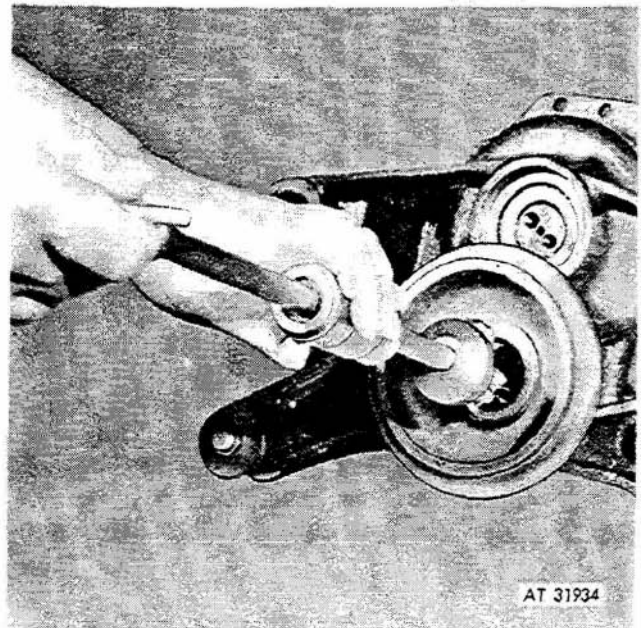

Figure 3-138. Removing seals from input housing.
(7) Using a suitable puller, remove seals (14) from housing (11) as shown in figure 3-138.